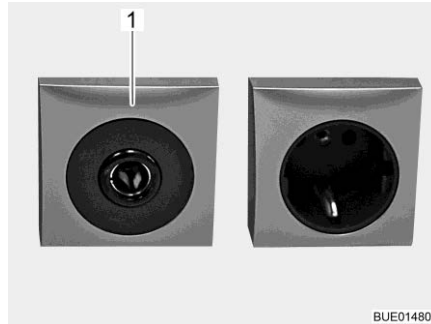

Fig. 137 12 V/10 A socket
- ▷ Only connect devices with a maximum of 10 A to the sockets (Fig. 137,1) of the 12 V power supply.